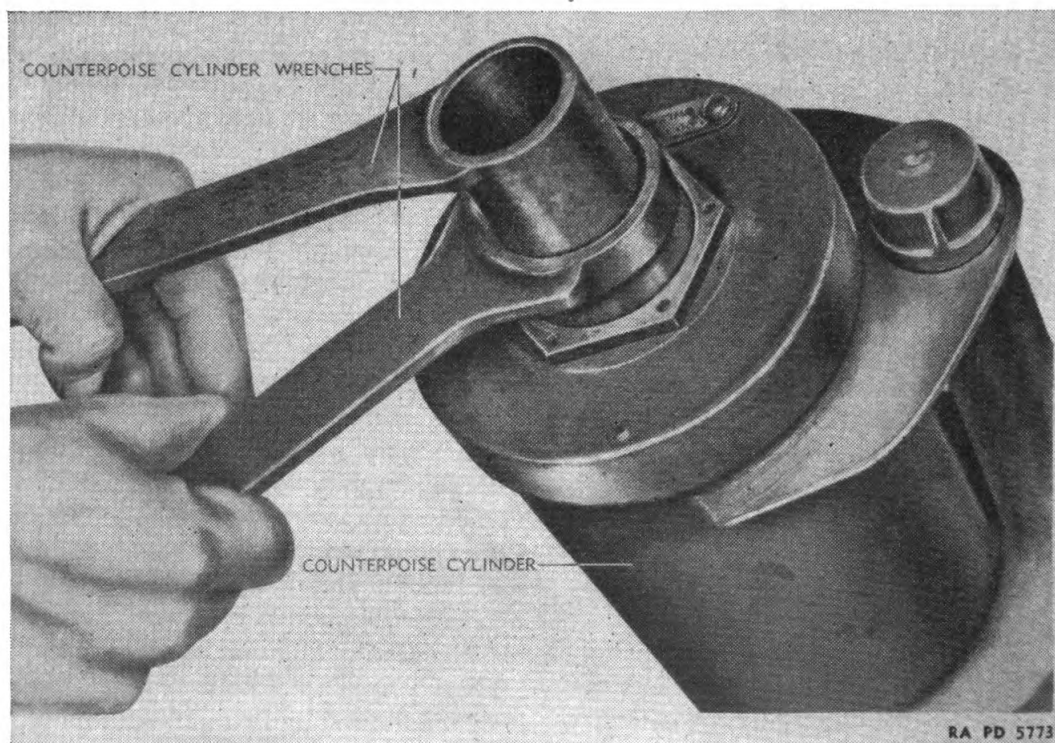

FIGURE 49.—Adjustment of counterpoise spring.
<p>a. General.—(1) Check for general appearance. Note whether carriage is properly painted and whether lubrication fittings have a red circle painted around them.</p> <p>(2) Examine the chassis and firing platform for bent, damaged, or broken plates, and for cracked welds.</p> <p>b. Counterpoise cylinders.—Lower and raise the chassis as described under operation. No excessive force should be necessary in carrying out these instructions. One man should be able to raise and lower each corner of the carriage.</p>	<p>a. (1) Clean and paint all exposed metal that originally had paint.</p> <p>(2) Broken or malformed parts of the chassis must be repaired by ordnance maintenance personnel.</p> <p>b. If it is difficult to raise or lower the carriage, adjustment of the counterpoise cylinder springs will be necessary. Adjust only the cylinder whose wheel is difficult to operate. Adjustment is as follows (fig. 49):</p> <p>(1) Raise the carriage to traveling position.</p> <p>2 Remove the upper cap of the counterpoise cylinder.</p> <p>(3) Place the larger counterpoise cylinder wrench over the larger nut. Place the smaller counterpoise cylinder wrench in the larger wrench and over the smaller nut.</p> <p>(4) Loosen the smaller nut.</p> <p>(5) If the carriage is hard to lower, loosen the larger nut by turning it counterclockwise. If the carriage is hard to raise, turn the larger nut clockwise.</p>
<p>c. Elevating mechanism.—(1) Check for binding or excessive backlash.</p> <p>(2) Elevate and depress the gun on the M3 and M3E1 carriage manually and note smoothness of operation.</p> <p>(3) Elevate and depress the gun and cradle of the M3A1 carriage by hand crank and also by remote control system. There should be neither binding nor backlash with either type of operation.</p> <p>d. Traversing mechanism.—Check for excessive backlash or binding. Traverse 360° manually and note smoothness of action. Operate the M3A1 carriage by hand crank and also by remote control system. There should be no binding or backlash by either type of operation.</p>	<p>(6) Tighten the smaller nut after the adjustment.</p> <p>(7) Test the mechanism for improved action.</p> <p>(8) Replace the upper cap.</p> <p>c. (1) If handwheel or crank play is greater than one-fourth turn, notify ordnance maintenance personnel.</p> <p>(2) If load on the handwheel is excessive, adjustment of the equilibrator is necessary as follows:</p> <p>(a) Set the gun to maximum elevation.</p> <p>(b) Remove the front cap of the equilibrator.</p> <p>(c) Place the larger equilibrator cylinder wrench over the larger nut and the smaller equilibrator cylinder wrench in the larger one and over the smaller nut in the manner shown in figure 49.</p> <p>(d) Loosen the smaller nut.</p> <p>(e) If the gun is hard to elevate, turn larger nut clockwise. If the gun is hard to depress, turn the larger nut counter-clockwise.</p> <p>(f) Tighten the smaller nut after the adjustment.</p> <p>(g) Test the mechanism for improved action.</p> <p>(h) Replace the front cap. If the above adjustment cannot rectify the elevating handwheel load, notify ordnance maintenance personnel.</p> <p>(3) Apply same corrections as above.</p> <p>d. If handwheel or crank play is greater than one-fourth turn or if handwheel load is excessive, notify ordnance maintenance personnel.</p>